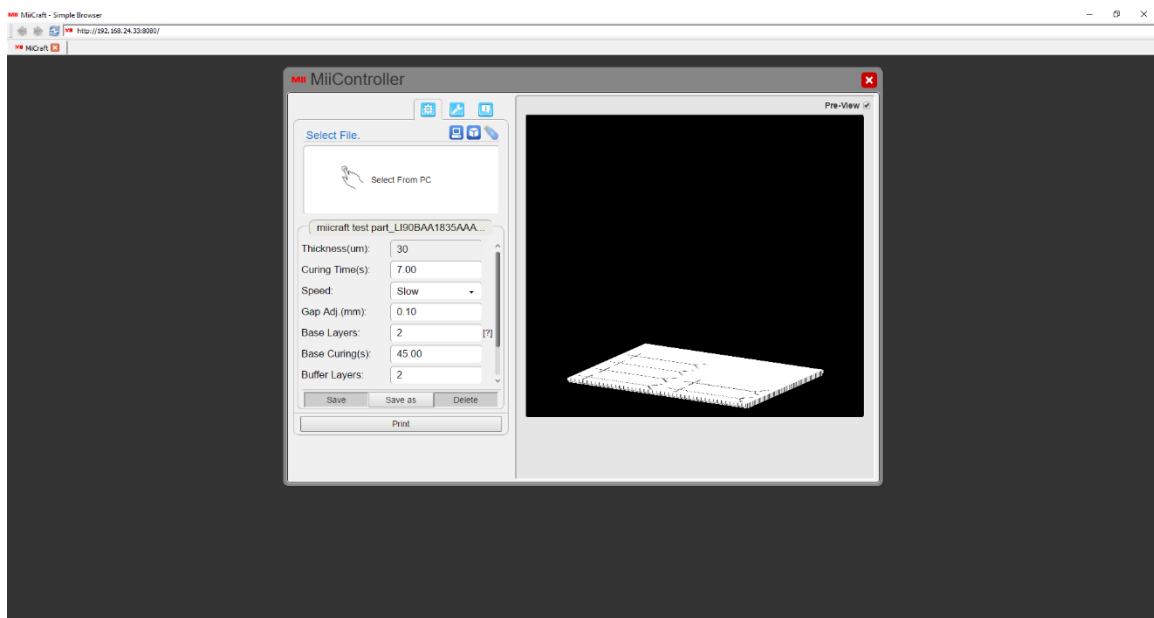

Figure 4 - MiiController Window
12. The MiiController window will open inside the MiiCraft Simple Browser (see figure 4 below). Click on “Select From PC” and select the correct .mii file